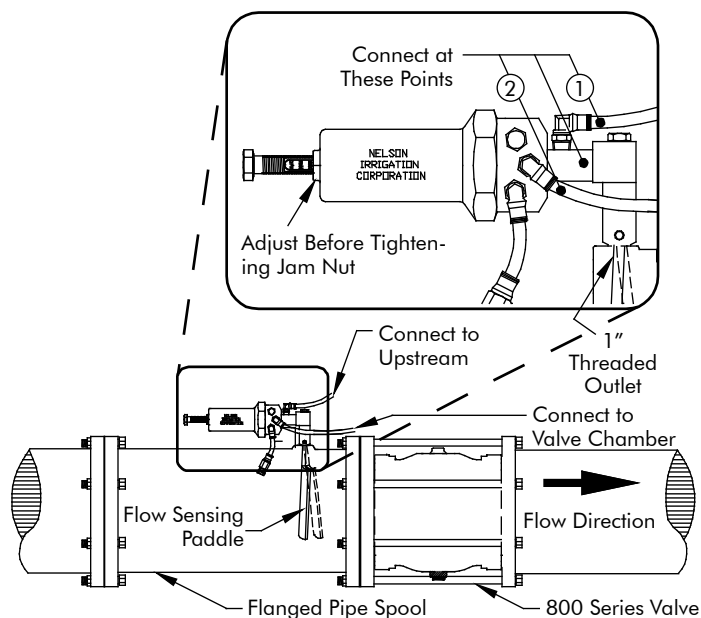

Figure 3
3. Connect the control tubing marked 1 to the upstream fitting 1, and the control tubing marked 2 to fitting 2 (see Figure 3) and vent at the points shown by the arrows in the sketch.